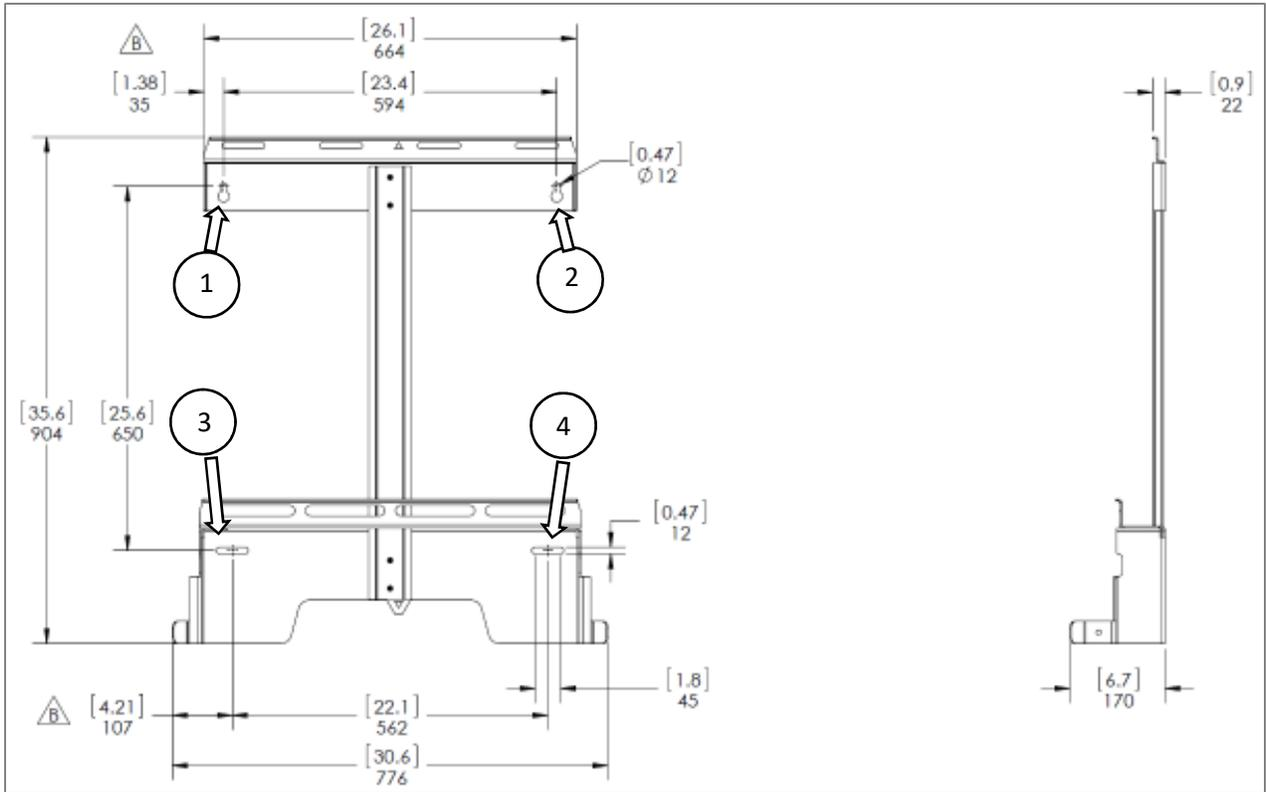

Figure 3-5 Mounting Bracket, mounting holes
A mounting bracket is provided with each SOLECTRIA XGI 1000™, shown in Figure 3-5. Direct mounting to any surface without using the provided mounting bracket is not permitted. The mounting bracket must be securely attached to a structurally sound, flat surface. Acceptable surfaces include; U-channel metal racking (such as Unistrut), concrete, or other non-flammable surfaces.
The Mounting Bracket has four (4) holes, shown in Figure 3-5, to allow the mounting bracket to be secured the substrate. Use M10 or 7/16th mounting fasteners (not included), torque to the proper specifications.